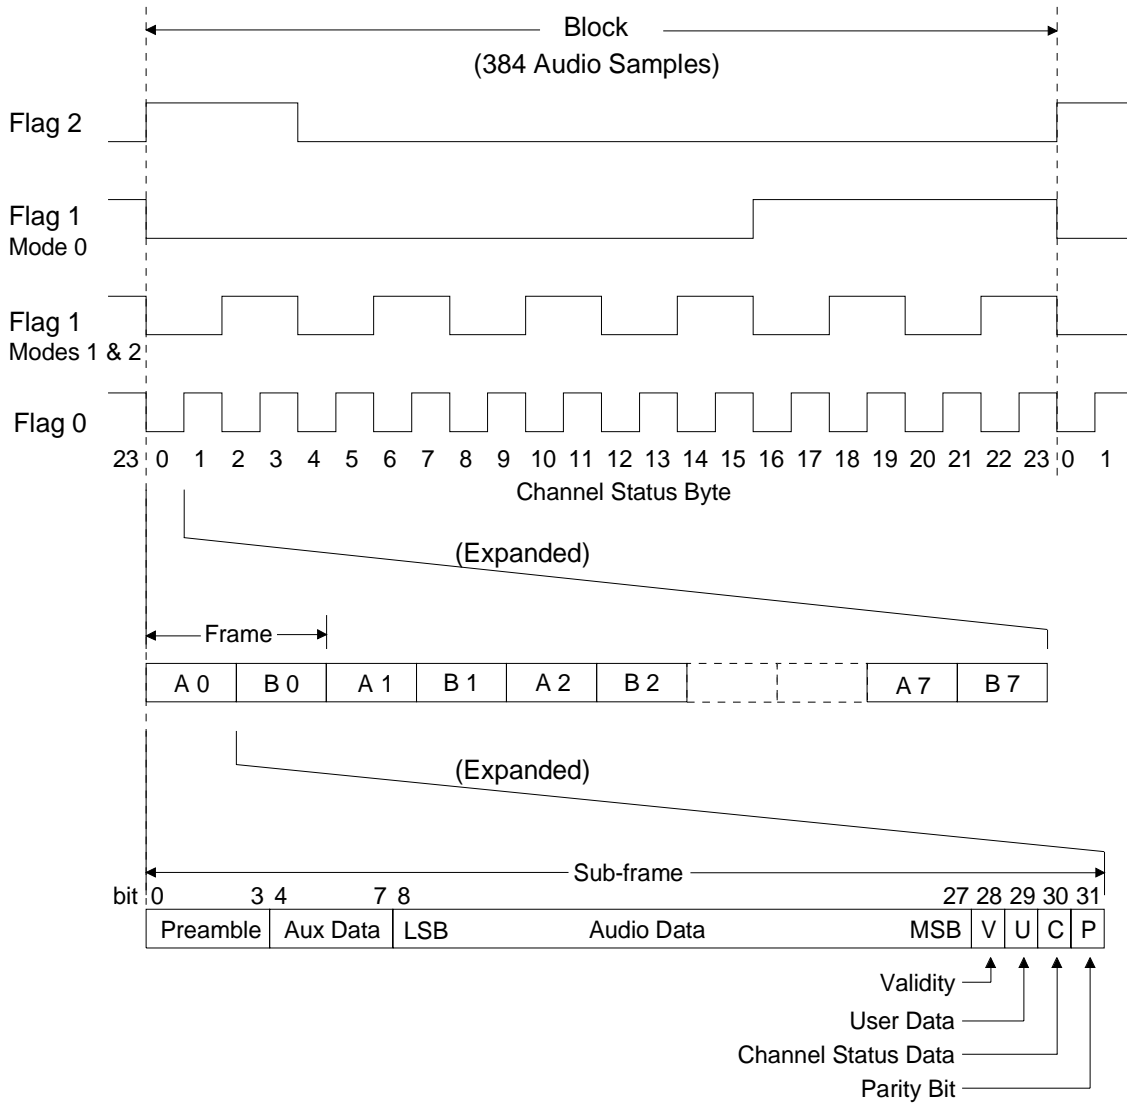

Figure 11. CS8411 Status Register Flag Timing
- SR1: FLAG1: Memory mode dependent - See Figure .11
Figure 11 illustrates the flag timing for an entire channel status block which includes 24 bytes of channel status data per channel and 384 audio samples. The lower portion of Figure 11 expands the first byte of channel status showing eight pairs of